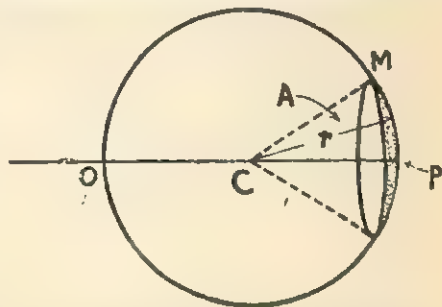

Fig. 11.6. Origin of a concave mirror.
**1 Concave mirror.** It is a part of hollow glass sphere with its convex side silvered such that the inner surface becomes reflecting, as shown in Fig. 11.6.